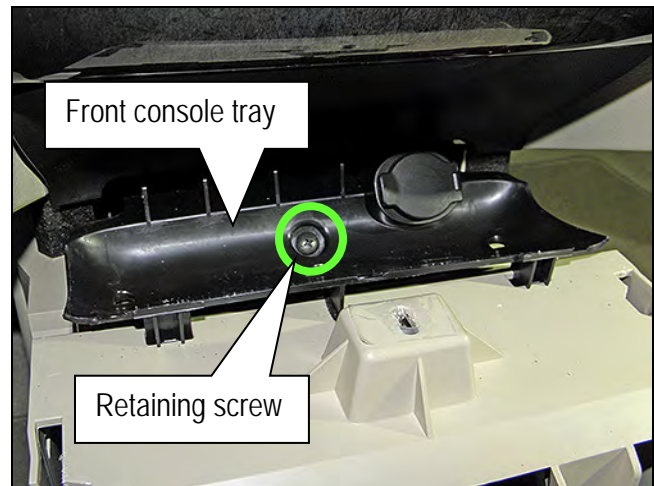

Figure 22B
7. Remove one retaining screw and then unclip the front console tray from the center console (Figure 22B).